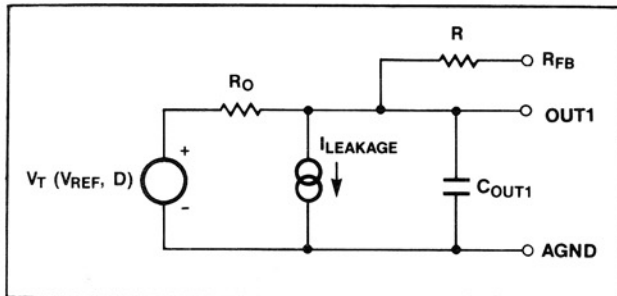

Figure 2. MX7548 Equivalent Analog Output Circuit
Figure 2 shows the equivalent circuits for the MX7548 analog section. The $I_{LEAKAGE}$ current sources represent junction and surface leakage currents. The equivalent output resistor of the DAC is R_o , which varies with digital input code from $0.8R$ to $2R$ (infinite at zero code), where R is typically 11k Ω . Capacitor C_{OUT1} represents the capacitances of the switches used in the R-2R ladder. When inputs are switched from low to high, the capacitance at OUT1 changes from about 40pF to 100pF. This capacitance is code-dependent and is a function of the number of ON switches that are connected to the output. $V_T(V_{REF,D})$ is the equivalent voltage source controlled by V_{REF} and the digital input code (D).